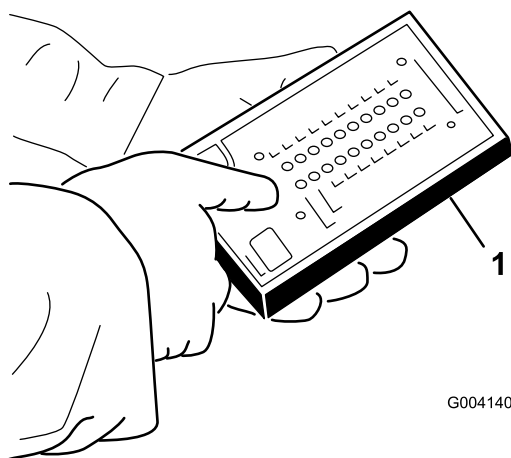

Figure 51
5. Connect the Diagnostic ACE display connector to the harness connector (Figure 51).